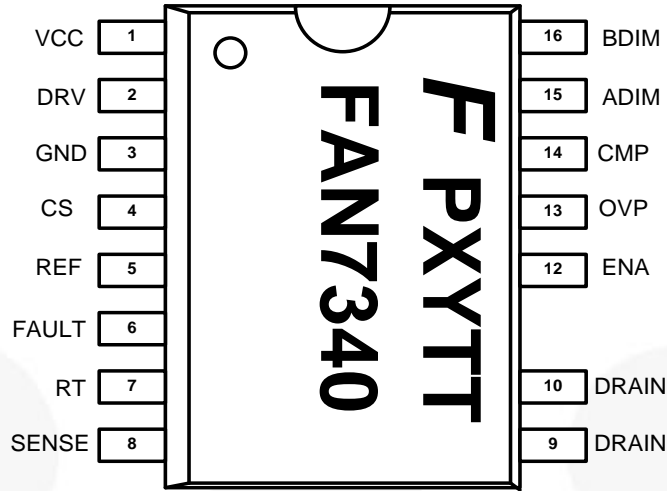

Figure 2. Package Diagram
- Pin 11 is a "No Connect" pin (not shown in Figure 2).